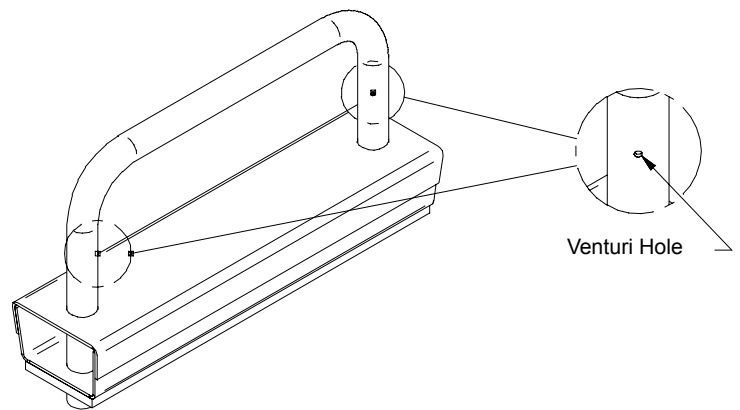

FIGURE 12 - Ensure that the venturi Holes are Facing the Firebox
- Ensure the Log Retainer is put back with the 2 venturi holes are facing into the firebox as per Figure 12.